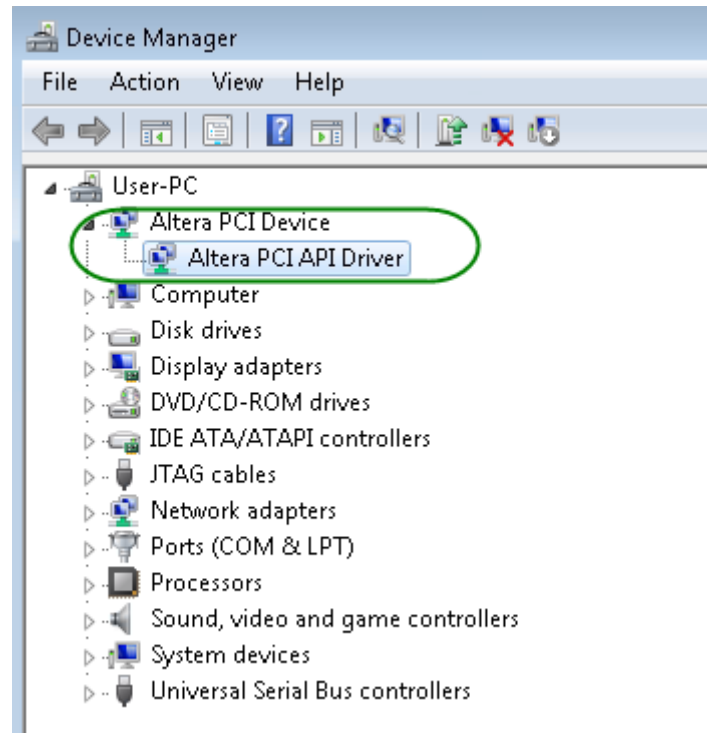

Figure 4-10 Screenshot for PCIe Driver
5. Make sure the Windows has detected the FPGA Board by checking the Windows Control panel as shown in **Figure 4-10**.